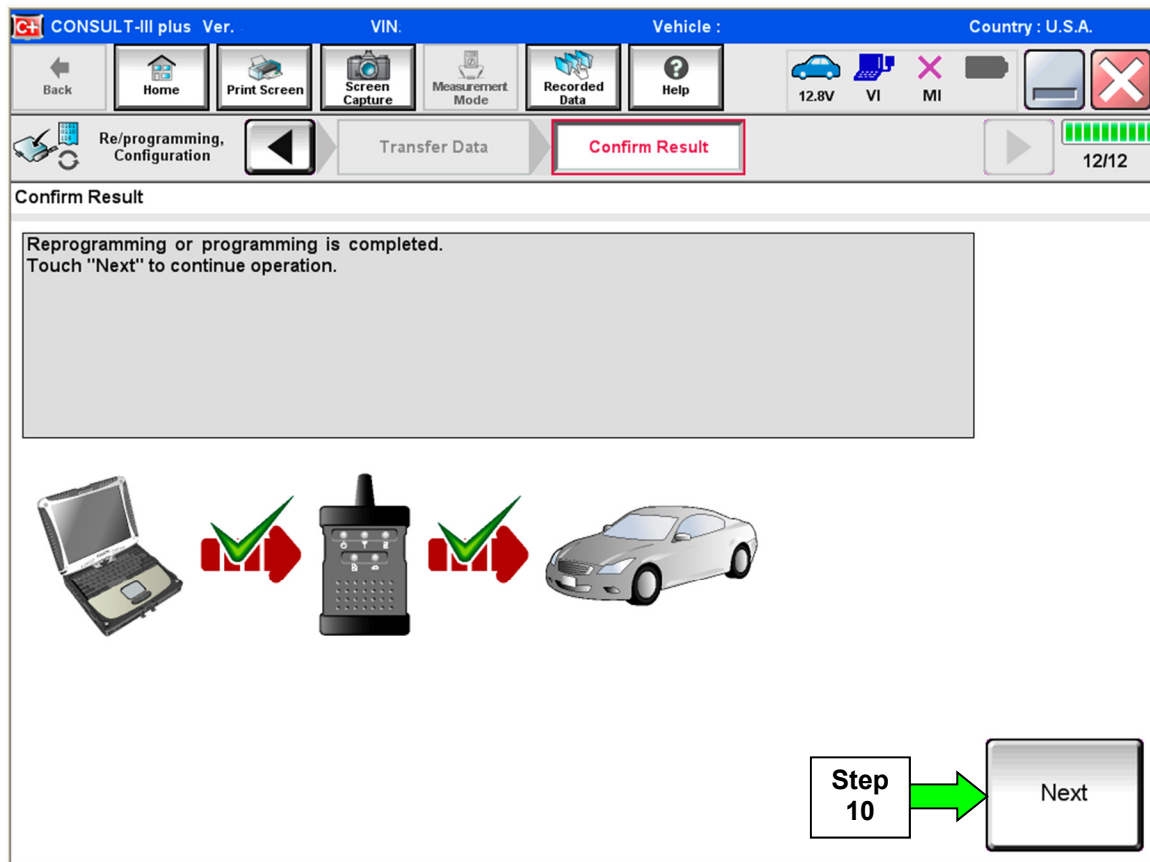

Figure 5
8. When the screen in Figure 5 displays, reprogramming is complete.
NOTE: If the screen in Figure 5 does not display (indicating that reprogramming did not complete), refer to the information on page 7.